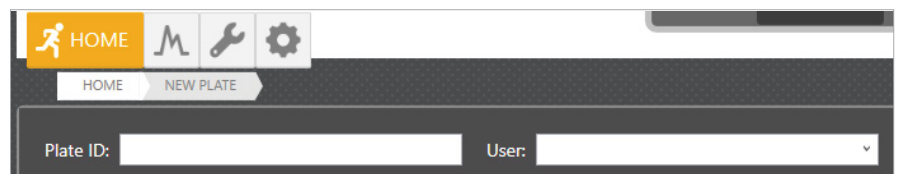

Figure 13. 'Plate ID' and 'User' fields of the plate screen.
2. Use the default Plate ID that includes date and time or enter information into the 'Plate ID' field (Figure 13).
3. If desired, enter user information into the 'User' field (Figure 13).
Note: The 'User' field is a user-defined section that can be used to search or filter previously created or completed plates (refer to the *Spectrum CE System Operating Manual #TMD052* for information on reviewing plate records). Previously entered user information is available via the drop-down option on the right side of the field (Figure 13).